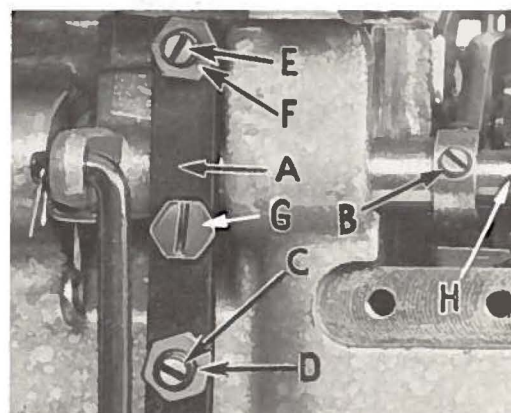

Fig. 15
Assemble the presser foot to presser arm. With needle in high position, swing presser arm into sewing position and set the presser foot to align needle holes (front and back) and flat on throat plate. The front edge of needle hole in presser foot must be aligned with front edge of needle hole in throat plate. It is also important that the bottom of the presser foot be flat on the throat plate. If necessary, presser foot can be realigned with throat plate slots by shifting the foot lifter lever shaft (H, Fig. 15). To move the shaft, loosen collar screws (B, Fig. 15) and clamp screw (G) and then shift the foot lifter lever shaft to the left or right as required. Retighten collar screws and clamp screw.
The foot lifter lever arm (A, Fig. 15) and the collar (B) secure the shaft. Be sure the presser arm does not bind and rise when presser foot release bushing is unlocked.